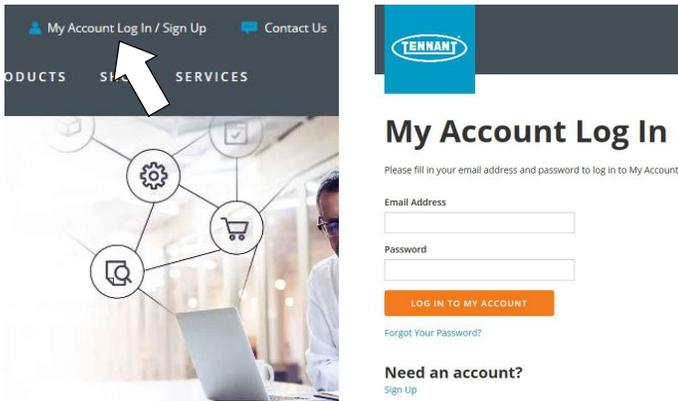

Fig. 31
1. Press “My Account Log In/Sign Up” to open or create an account (Figure 31).